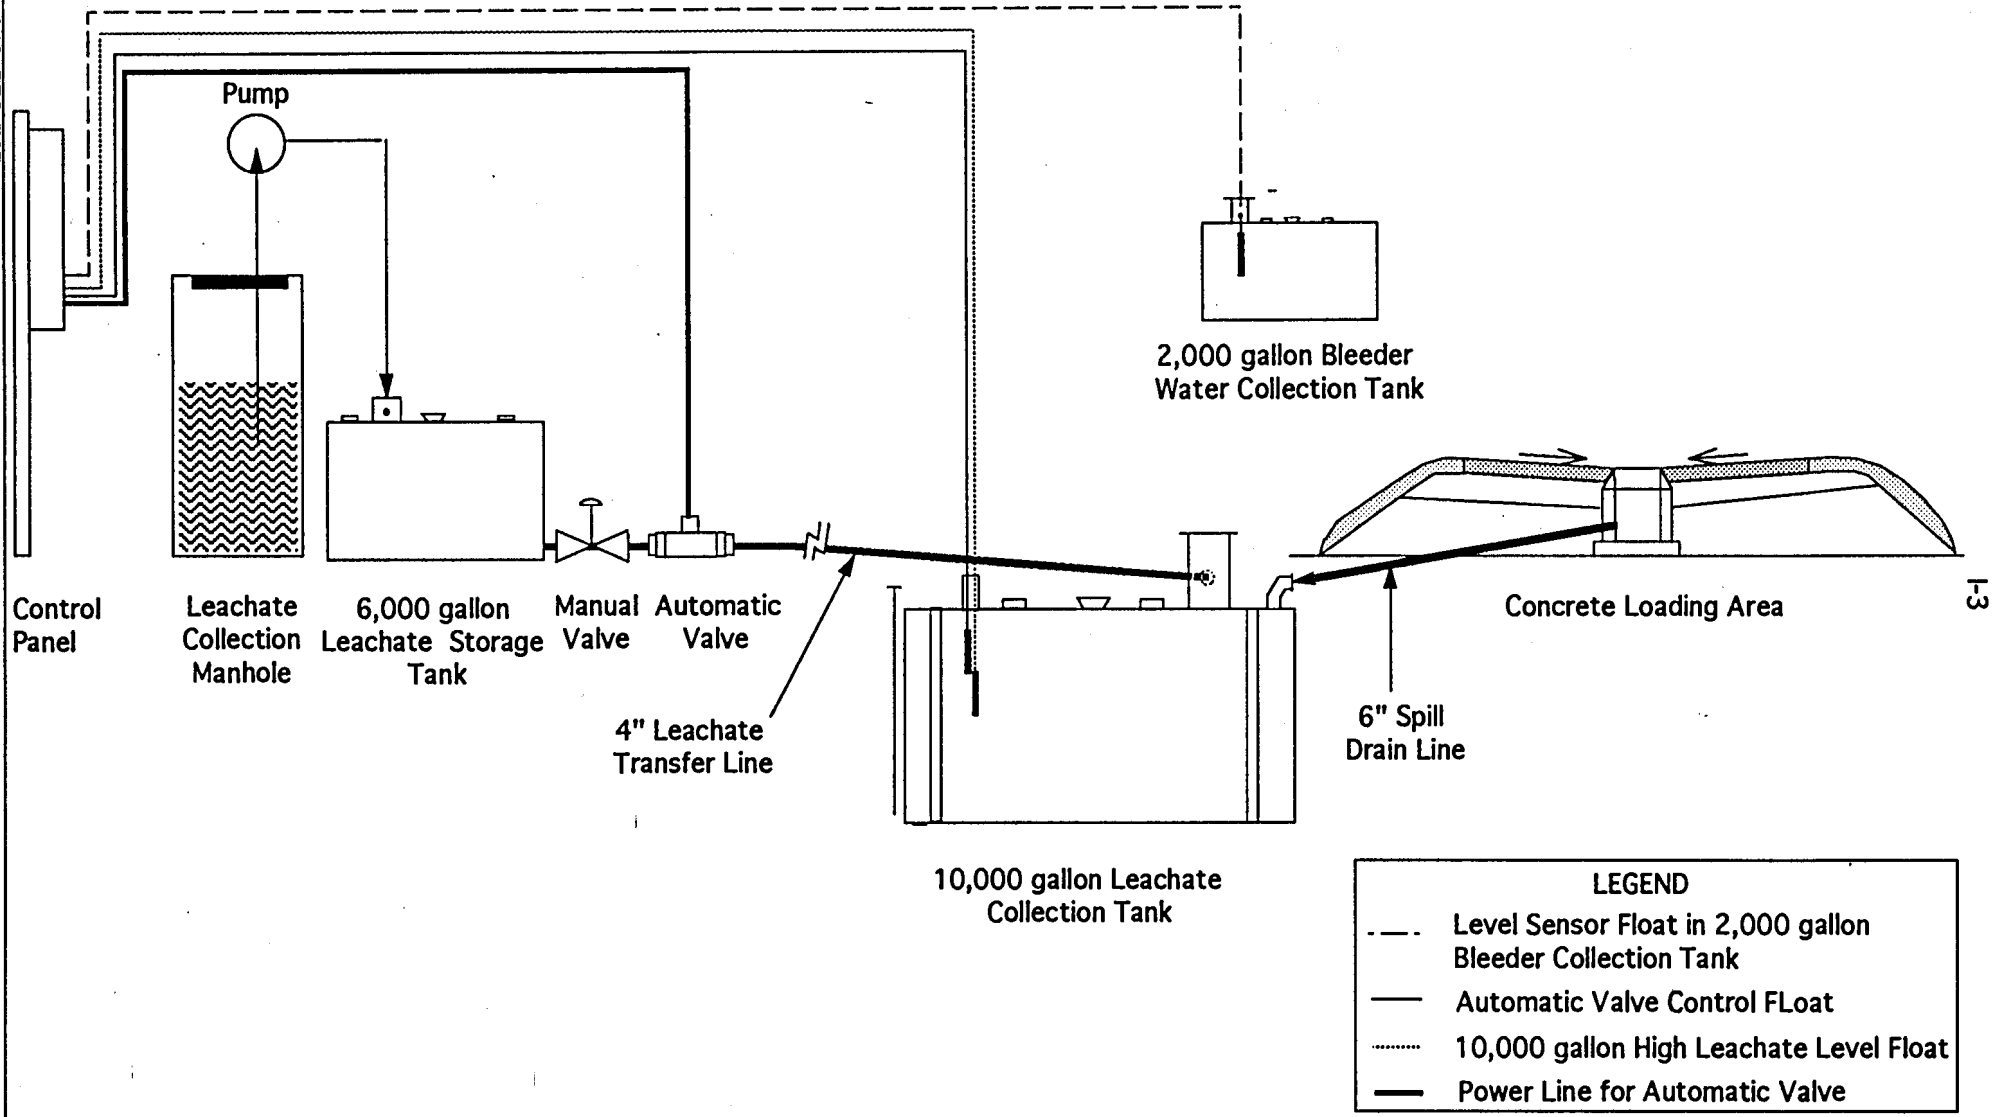

Figure 4. Schematic of Leachate Collection and Monitoring System
Ms. Marie Stewart of Wisconsin Department of Natural Resources sent a letter to K. Singh & Associates, Inc., on April 22, 1992 regarding preparation of technical specifications for installation of a 10,000 gallon leachate collection tank and remote monitoring and auto alarm system (1). The technical specifications for upgrading the leachate collection system was prepared and submitted in October 1992, in response to the agreement reached between the WDNR and K. Singh & Associates, Inc. in June 1992. The 10,000 gallon leachate collection tank, the concrete loading deck, and the remote monitoring system were installed in December 1992. Figure 4 shows the schematic layout of the leachate collection and the remote monitoring system.